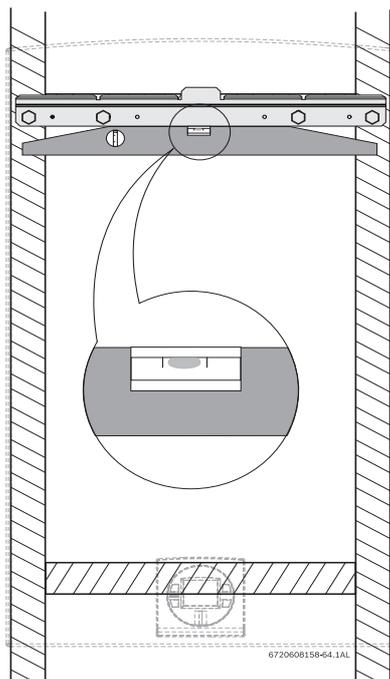

Fig. 9 Leveling wall mounting bracket
- ▶ Secure the wall mounting bracket provided with the heater to a wall surface. The heater must be kept level on the wall surface, see Fig. 9, page 9.